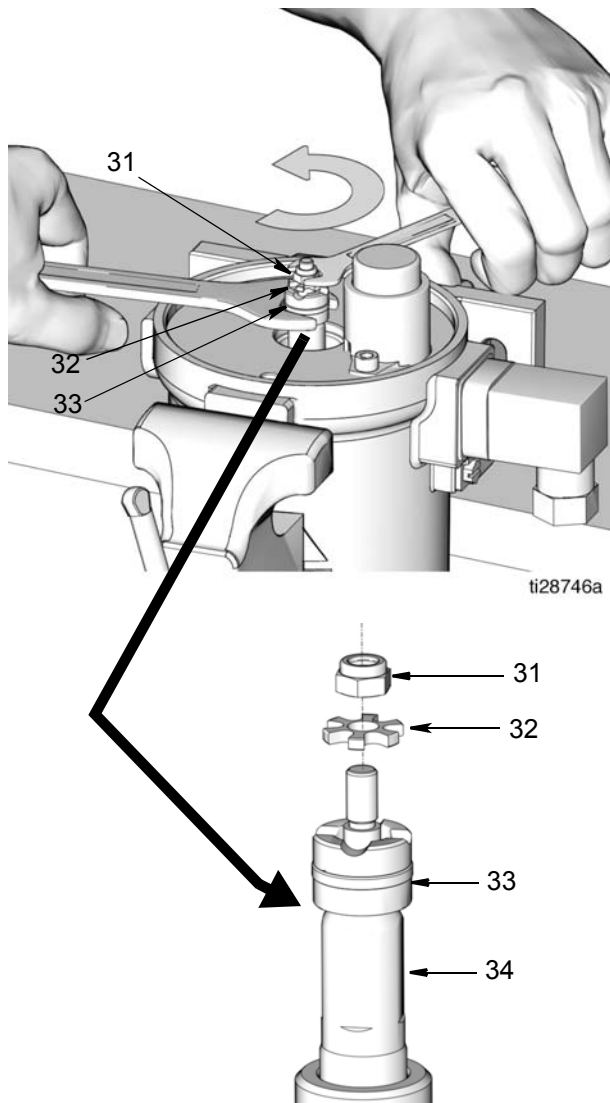

FIG. 19
15. Pump Piston Subassembly (33)
Secure a wrench on the flats of piston rod (34). Use a second wrench to remove lock nut (31) and star washer (32) from top of piston (FIG. 19). Remove lock nut and star washer. Keep these parts for reassembly.